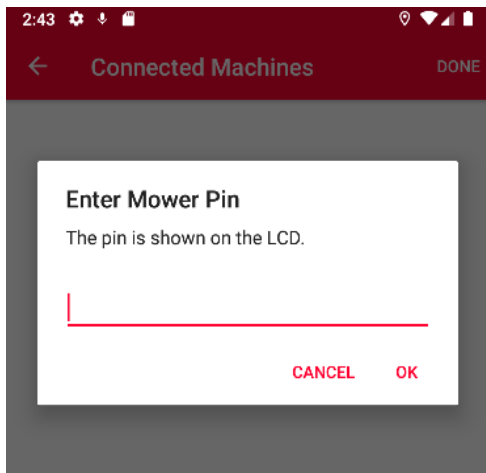

Figure 23
- Hit OK on the dialog and the machine should be added to the list in the Mobile App (Figure 23).